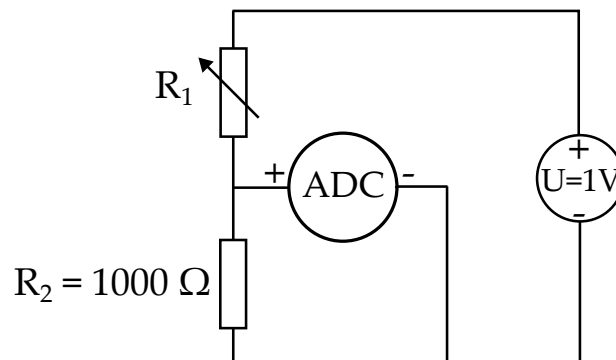

Figure 1: Analogue sensor readout circuit.
2. Figure 1 shows a circuit commonly used for the readout of analog sensors in robotics.  $R_1$  is a resistive strain gauge with a resistance range of  $3\text{ k}\Omega$  to  $9\text{ k}\Omega$  depending on the amount of mechanical strain. The *Analog to Digital Converter* (ADC) is measuring voltage from  $+$  to the other terminal  $-$ .